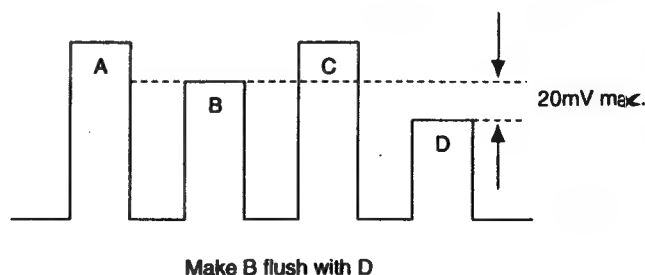

Fig. 5-14
3. Connect the probe of an oscilloscope to IC404 ⑩ PIN or TP402.
5. Adjust **[SUB CHROMA SMPTE]** so that the levels of B and D will be the same. (Fig.5-14)